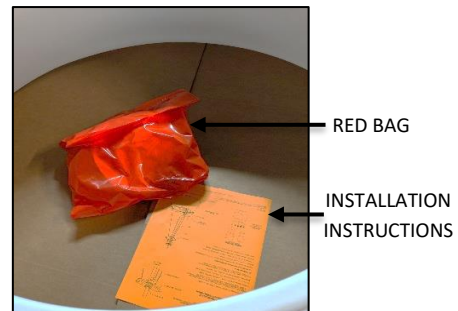

FIG.3 RED BAG AND
2. INSTALLATION INSTRUCTIONS (shown in FIG. 3) - Please completely read the install instructions before starting installation.
3. RED BAG (shown in FIG. 3) contains below following items.